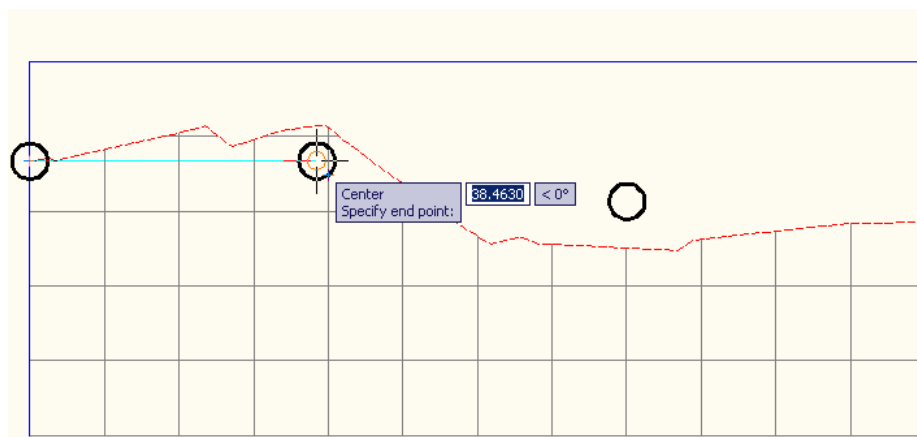

Figure 6-46 Specifying the first and the second points of first tangent
4. At the *Specify end point* prompt, click at the center of the second circle, as shown in Figure 6-46. Note that a Cyan colored tangent is created connecting the centers of the two circles.